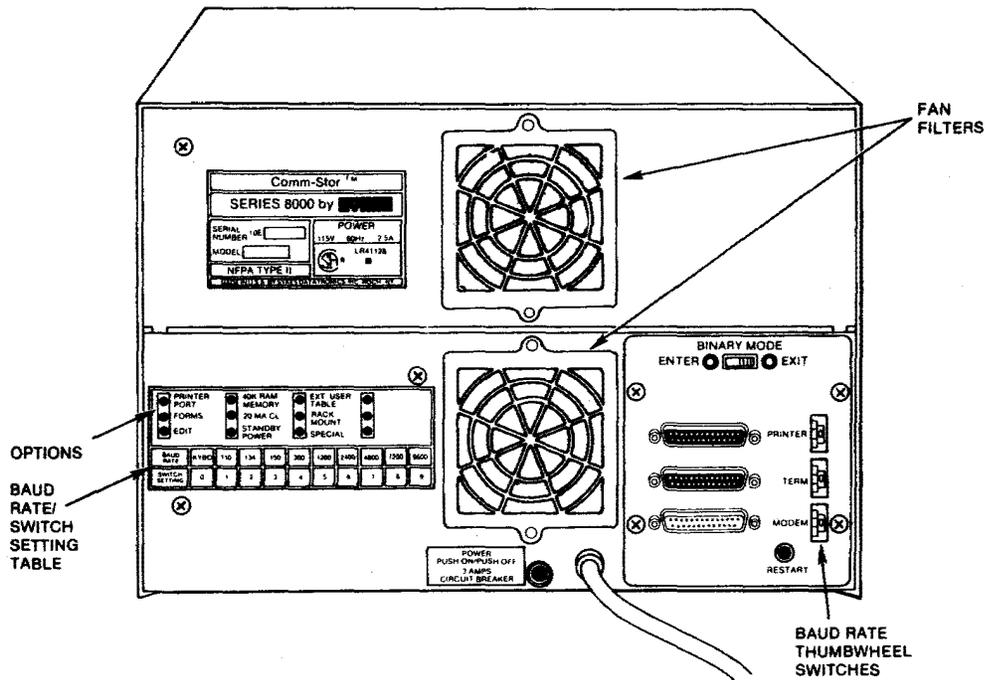

Fig. 1 — Rear View of the Comm-Stor II Unit (Dual Drive Unit)
**1.04** The option label on the rear panel of each unit indicates those options which are included in the unit at the time of manufacture (Fig. 1).